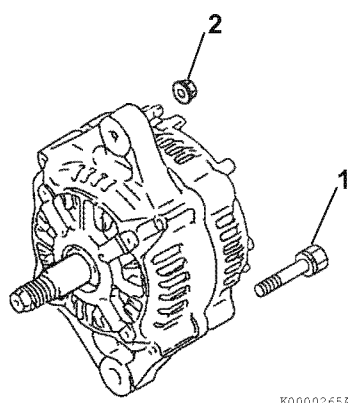

Figure 12-15
5. Align the front frame housing with the rear frame housing. Reinstall the two bolts (1, **Figure 12-15**) and two nuts (2, **Figure 12-15**).